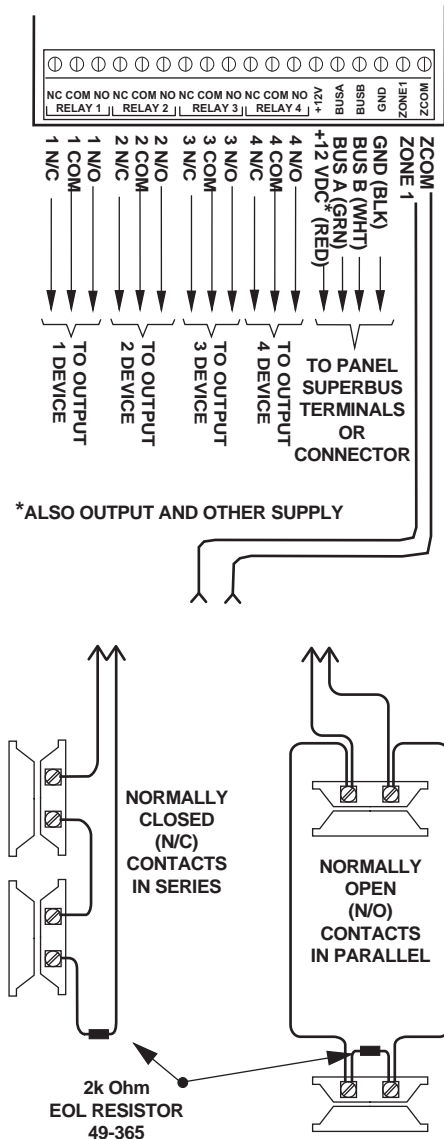

Figure 6. HOM Hardwire Input Zone Wiring
2. Wire the HOM to the panel as shown in Table 2 and Figure 6. For specific SuperBus 2000 wiring details, see the panel installation instructions.
Wire the HOM supervised hardwire input zone as shown in Figure 6. For specific output device wiring details, see the output device installation instructions. (Example HOM applications and wiring are provided later in this document.)